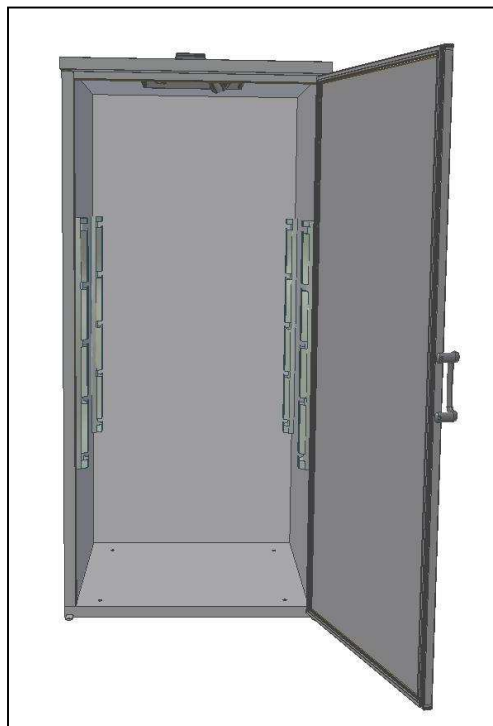

Fig. 13
- Insert **grid supports** on each side, right and left, in the interior of the cabinet (Fig.13);